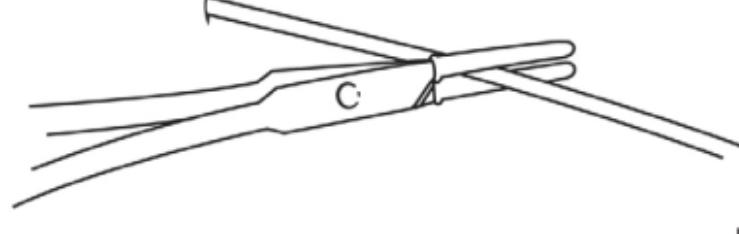

Fig. 1
1. Prepare the area. Firmly clamp the catheter near its entrance to the skin with rubber-shod forceps. (Fig. 1)